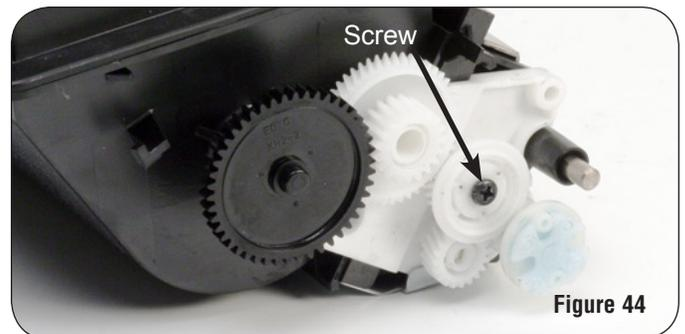

Figure 44
9. Install the developer roller washer and the gears on the drive side of the toner hopper in reverse order of when they were removed. Install a screw into the gear on the drive side of the toner hopper, as shown in Figure 44.